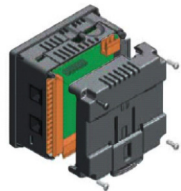

Figure 1
2. Remove the four screws on the back of the unit and remove the back cover. The back cover will be replaced with the extended back cover that ships with the communication add-on. Screws are re-used (Figure 1, below).